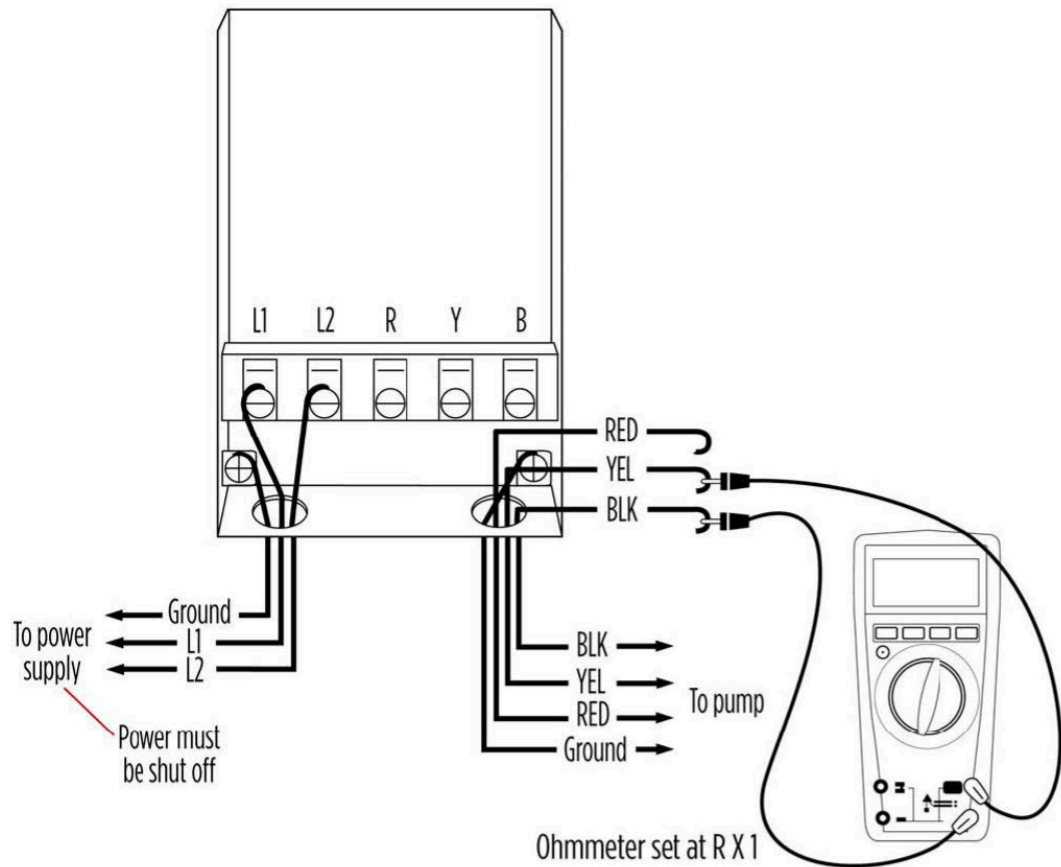

Figure 72. Motor winding test
- On 3-wire motors measure the resistance of yellow to black (main winding) and yellow to red (start winding) (Figure 72).
- Figure 72. “Motor winding test” from Franklin Electric is used for educational purposes under the basis of fair dealing.